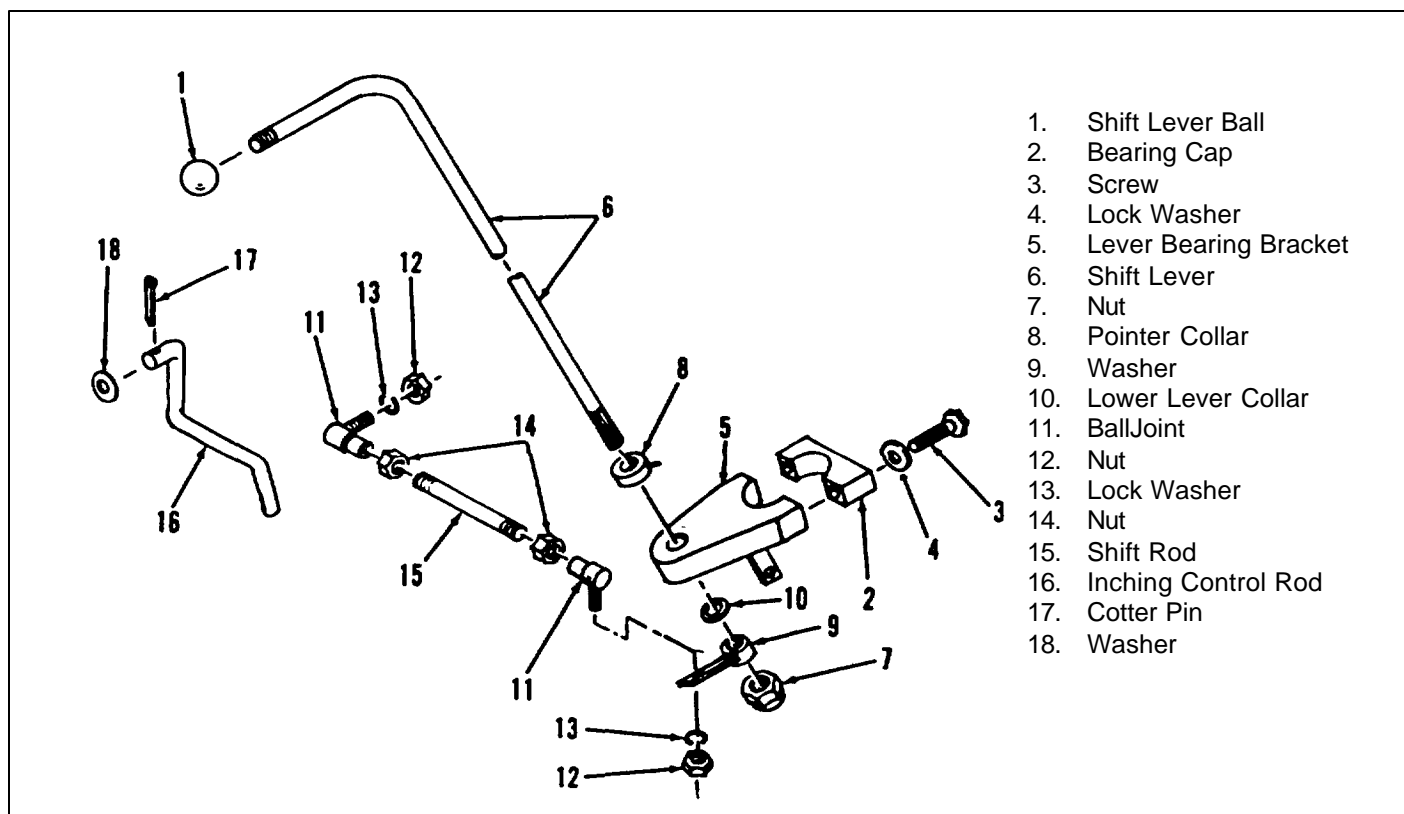

Figure 7-8. Transmission Directional Control Lever, Exploded View
1. Assemble and install inching rod (16, figure 7-8) and rod guide (19, figure 4-11) on transmission control valve.
2. Connect inching rod to the brake pedal with cotter pin (17, figure 7-8) and washer (18).
3. Assemble pointer collar (8), bearing bracket (5) and shift lever (6). Install bracket under one steering column clamp screw and clamp to steering column with cap (2).
4. Slide lever (6) through lower weldment and assemble collar (10) and splined collar (9). Assemble locknut (7).
6. Position control valve slide in neutral detent position. Adjust rod (15, figure 7-8) so knob end of lever (6) points directly to side of truck. Rotate shift lever and check operation of linkage in forward and reverse positions.
7. Install knob (1).
2. Adjust inching control valve piston (23, figure 4-16) adjustment screw (36, figure 4-11) until spool is fully in when screw is against the brake pedal inching rod (16, figure 7-8).